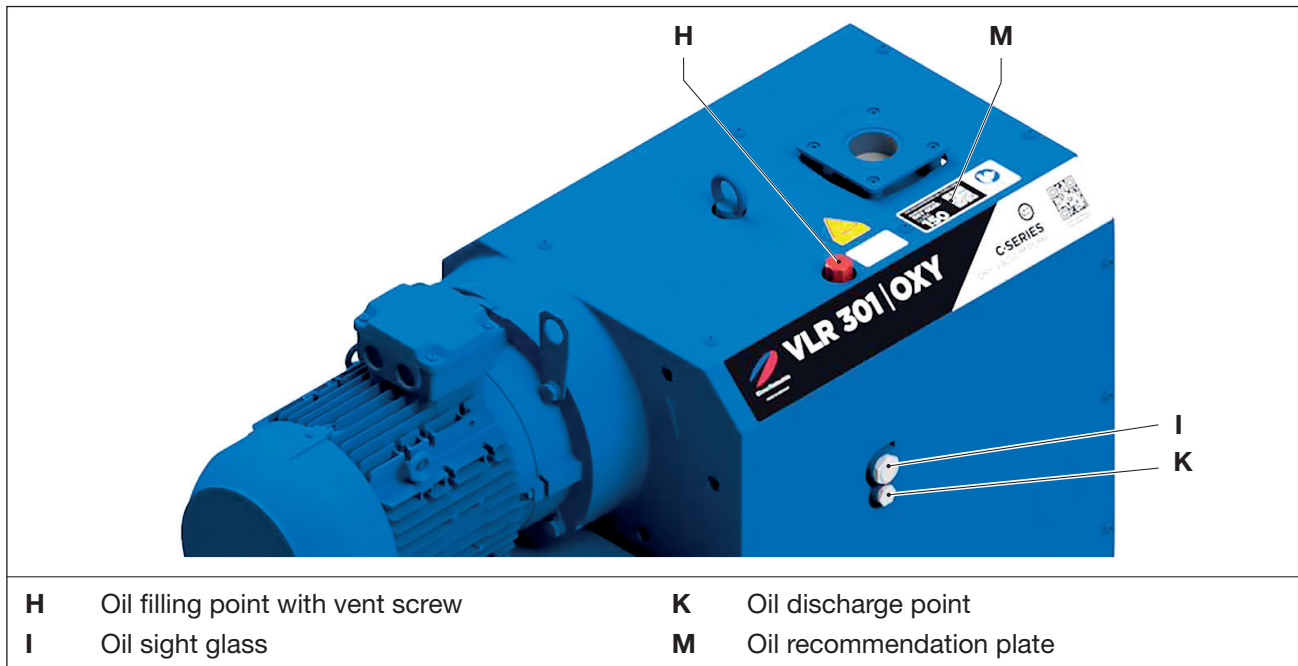

Fig. 5 Oil change
The machine is allowed to be operated only with the following operating agents (Elmo Rietschle oil), see oil recommendation sign (Fig. 5/M) as well as Tab. 3 „Oils“ on page 30:
Check the oil level in the sight glass (Fig. 5/I) every month.
- Open the cap of the oil filling point (Fig. 5/H) and refill oil until it reaches the upper edge of the sight glass (Fig. 5/I).
- Open the screw of the oil filling point (Fig. 5/H), open the oil discharge point (Fig. 5/K) and completely discharge the used oil.
- Close the oil discharge point (Fig. 5/K) and fill in new oil through the oil filling point (Fig. 5/H). Check the oil level in the sight glasses (Fig. 5/I).
- Close the screw in the oil filling point (Fig. 5/H).